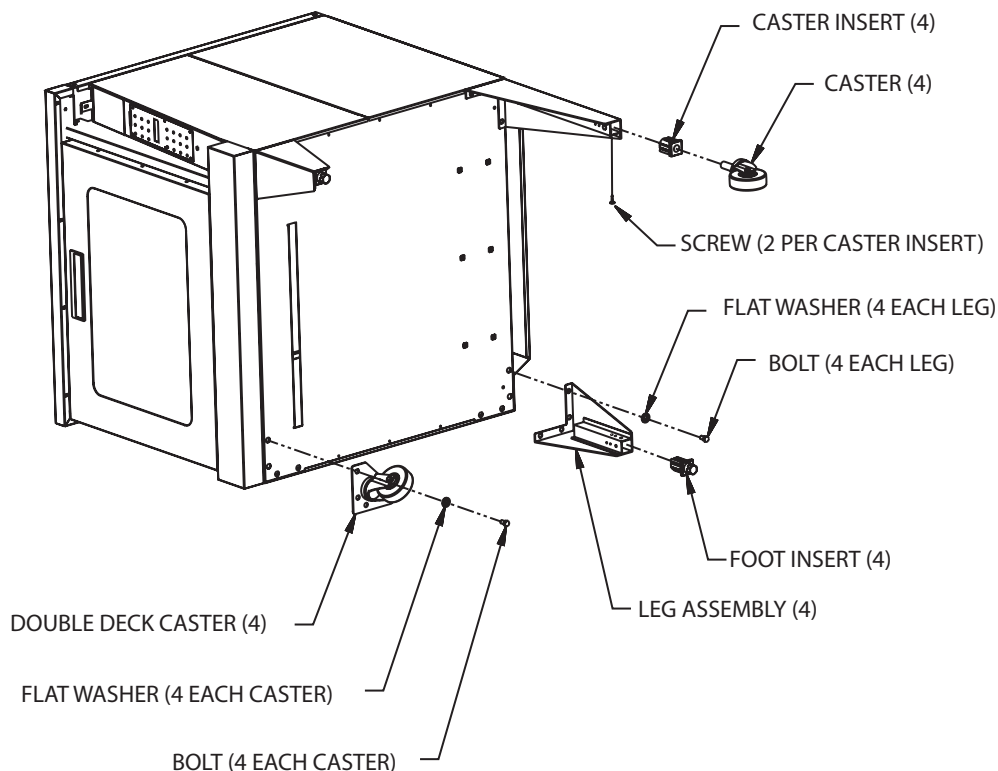

Figure 1.
1. (See Figure 1.). At the bottom end of each leg, install the bullet foot insert or caster insert. The fit of the insert to the leg is intended to be snug, tap them lightly into place with a mallet or rubber hammer.